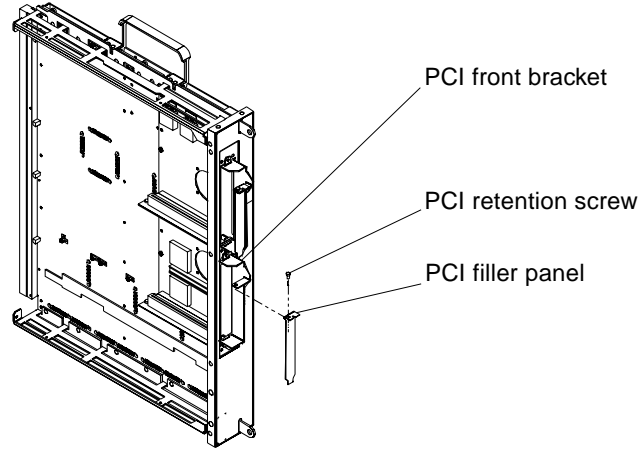

FIGURE 2-6 PCI Filler Panel
3. Remove the PCI retention screw from the top flange of the PCI filler panel and remove it from the system board assembly (FIGURE 2-6).